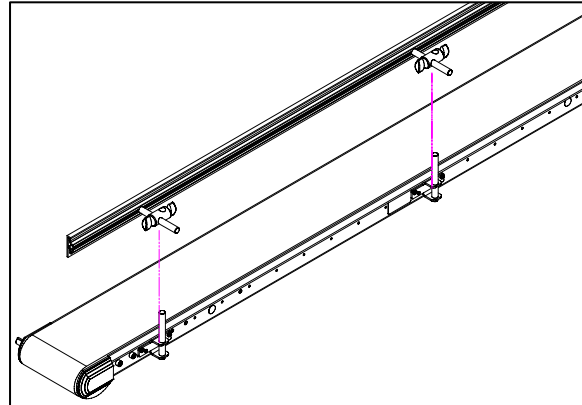

Figure 3
③ Install the Guide Rail to the Brackets
a. Install the Guiderail/Rod/Cross Block assembly over the vertical rods connected to the Guide Brackets, and secure them in place vertically (**Figure 3**).